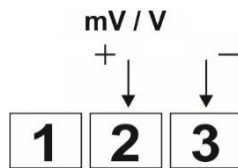

Figure 11 – 50 mV, 5 V and 10 V connections
- **50 mV, 5 V and 10 V:** Figure 11 shows the connection mode for 0-50 mV, 5 V and 10 V.